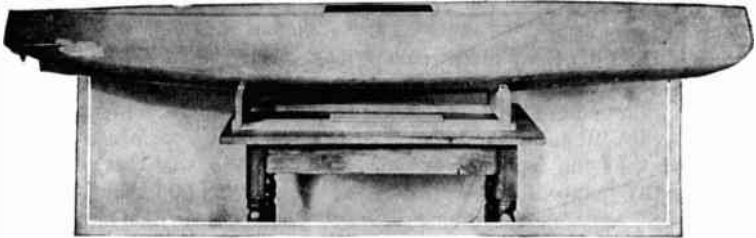
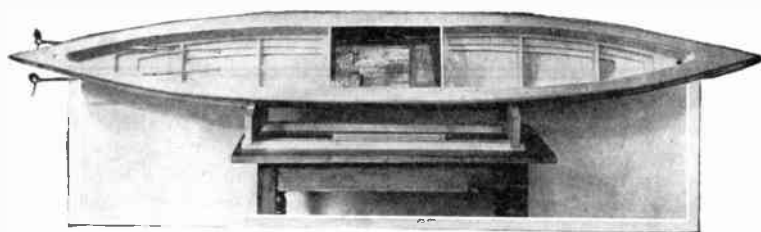
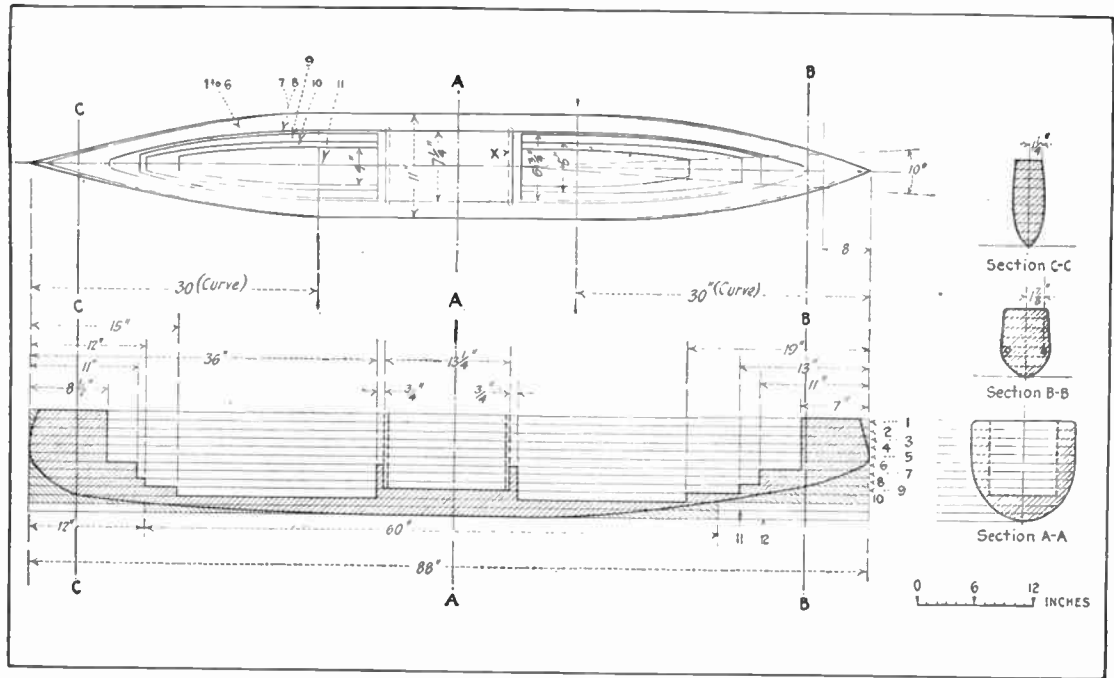

Fig. 1. Profile of hull
Fig. 2. Looking down into hull
Fig. 3. Hull of the submarine in detail
just what it means. The gasoline engine, so called, is technically termed an internal combustion engine. Like a steam engine, it is really a *heat motor*. But the steam engine (external combustion) requires a separate boiler with a fire which is lighted once for all, and not extinguished until the end of the run, a day or week or even a month. The usual four cylinder auto engine, on the other hand, must have fires lighted twice in every revolution. Manifestly some special devices must be used when as in the case of high speed engines some 7,000 separate fires must be started every minute. This is universally done by means of the *jump spark plug*, well known to even the greenest motorist. Its construction may, however, not be so well known. See Fig. 1. It is a very simple device consisting of a metal electrode (conducting wire) insulated from the outer steel shell by a porcelain bushing. The shell is provided with a thread which screws into a hole in the head or valve chamber of the engine. The electrode ends in
a point which comes within about  $1/32$  of an inch of a similar point inside the shell, but does not touch it. The reader will see that there is no way for the electric current to pass except by jumping from point to point. In doing so it produces the *spark* which is really a miniature arc light, small but exceedingly hot. In order that the current may leap the gap in its circuit it must be of very *high tension*, *i. e.*, electrical pressure. The current supplied for the purpose, whether from dry batteries, accumulators, or magneto, is originally of very low tension, entirely incapable of "jumping" however small the gap. Even in the so-called high tension magnetos the current is generated at very low pressure and there "stepped up" by some form of induction coil, which may be built into the machine itself, but is always present. Fig. 2 is a diagram of the simplest form of ignition apparatus for a single cylinder. Note that there are two separate circuits, the first or primary from the batteries *BB* through the few turns of coarse
It might be represented by a diagram something like Fig. 3. The arrangement of batteries, interrupter and coil is the same as in Fig. 2, but the distributor *D*, sometimes incorrectly called the timer, is added. It is really a rotary switch, and like the in-
*The Hull.* Figs. 1 and 2 are photographs of the finished hull of white pine, with all compartments in place, and with the twin propellers installed. Fig. 3 is a scale drawing of the hull in plan and section. The readers who have followed the former submarine series in EVERYDAY will note that we have again used the laminated plank method of con-
From Fig. 3 the builder can lay out full-sized patterns of the twelve planks on heavy paper from which the designs may be transferred to the boards preparatory to sawing out. Let it be understood that the dimensions given are the finished sizes. The hull planks are to be cut somewhat oversize, say  $\frac{1}{4}$  in., to per-
Reference to the sectional view shows us that Nos. 7 and 8 begin to form the compartments. Nos. 9 and 10 are still smaller, to care for the curvature of the lower part of the hull. These openings should be scribed individually on the several planks to make sure that the opening, when cut, will not pierce the wall or make it too thin in places. Fig. 2 shows very clearly how the openings become smaller as the bottom of the hull is reached.
When the hull paint is bone dry, the work on the interior may be started. All "whiskers" are removed with coarse sandpaper which will smooth out the saw marks to a great extent. The compartments shown in the lower hold in Fig. 2 are merely to keep the water from surging back and forth when the craft is in motion. These bulkheads are well perforated with holes and are secured with brads. The storage battery compartment is made absolutely watertight. The drawing gives the details, the dotted lines indicating the compartment wall of  $\frac{1}{4}$  in. whitewood. The cement is freely used in assembling this compartment, the walls being literally plastered with it. When the cement is bone dry, the battery compartment is given three consecutive coats of some good acid-resisting compound obtainable from a large electrical supply store.